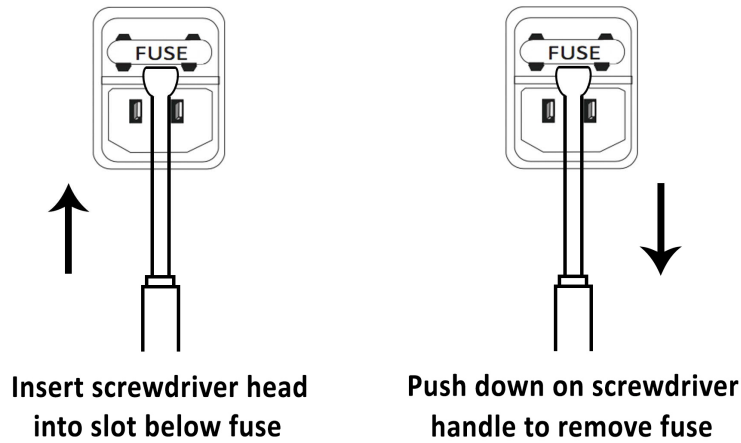

Figure 54: Remove the Fuse
- a. Insert the head of the screwdriver into the slot below the fuse. (Figure 54)